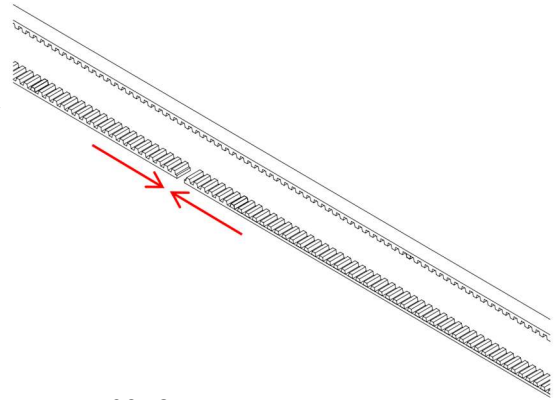

Figure 32: Cut the belt so that the two ends touch without overlapping.
2. Use your hands to gently pull the belt tight. Cut the belt so that the two ends can touch without overlapping (Figure 32).